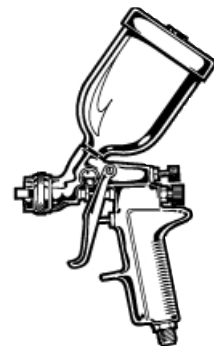

Figure 3 - Gravity Feed Gun with attached cup
Figure 3 shows a gun with a cup attached above it.
*Gravity Feed*...the material travels down, carried by its own weight and gravity as in Figure 3.